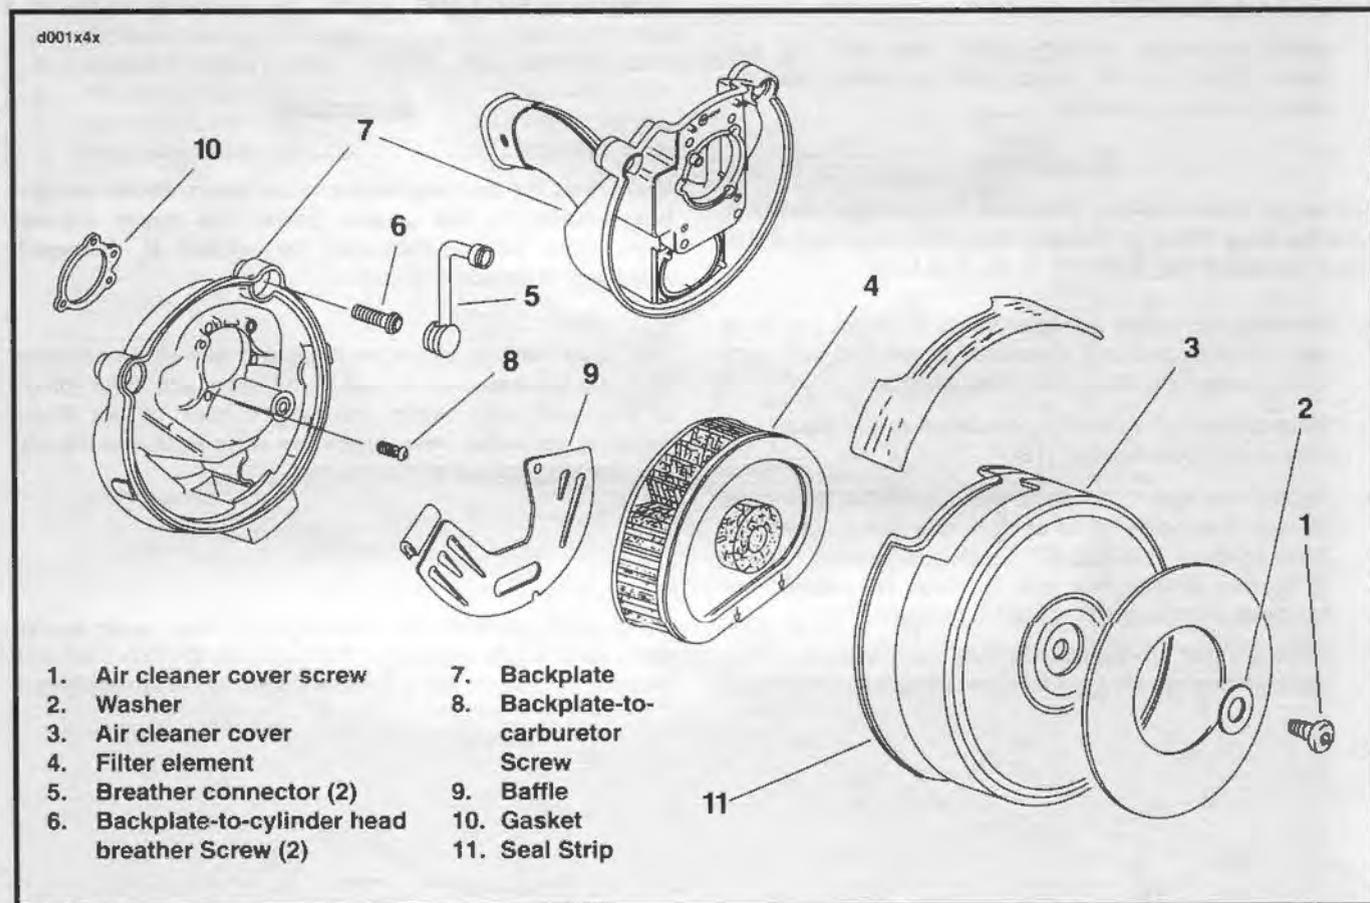

Figure 4-17. Air Cleaner – General
1. See Figure 4-17. Remove screw (1) and washer (2).
2. Remove cover (3) and filter element (4).
1. See Figure 4-17. Check each backplate-to-carburetor screw (8) to be sure they are not threaded into backplate threaded insert. Place baffle (9) (if removed) in backplate (7).
2. Position backplate and gasket (10) on carburetor. Start each backplate-to-carburetor screw (9) into threaded holes in carburetor flange.
4. Apply Loctite pipe sealant to threads and insert one screw (6) into each upper backplate mounting hole and thread loosely into the threaded hole in each cylinder head.
5. Tighten backplate-to-carburetor screws (8) to 3-5 ft-lbs (4-7 Nm).
6. Tighten backplate-to-cylinder head screws (6) to 10-12 ft-lbs (14-16 Nm).
7. Install breather connectors (5) over screws (6) at two upper mounting holes and in filter element.
8. Place filter element (4) in position. Place cover (3) and seal strip (11) over filter and install screw (1) and washer (2). Tighten air cleaner cover screw to 3-5 ft-lbs (4-7 Nm).
6. See Figure 4-17. Position gasket (10) and backplate (7) next to carburetor and install the crankcase breather tube. Start each backplate-to-carburetor screw (8) into threaded holes in carburetor flange.
8. Insert one backplate-to-cylinder head breather screw (6) into each upper backplate mounting hole and thread loosely into the threaded hole in each cylinder head.
12. Install baffle plate (9) in bottom of backplate and place element (4) in backplate.
13. Position cover (3) on backplate and secure with washer (2) and air cleaner cover screw (1).